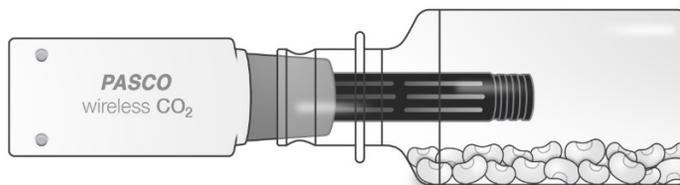

Figure 1: Set the bottle on its side
6. Place 25 mL of dry, dormant seeds into an empty sampling bottle. Use the 25-mL line on the bottle to measure volume. Seal the bottle with the carbon dioxide gas sensor and set the system on its side as shown in Figure 1.